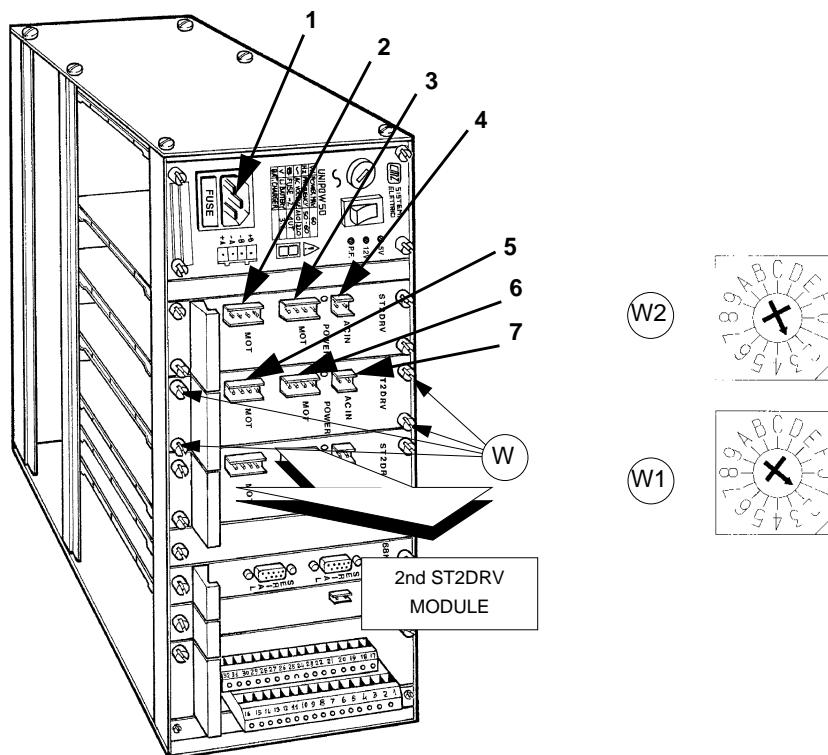

Fig. 37
- 5) loosen the four screws (W) securing the module (it is not necessary to remove them) (fig. 37).
- 6) slide the module from the rack and replace with a new one after positioning the commutators (W1) and (W2) (fig. 37).